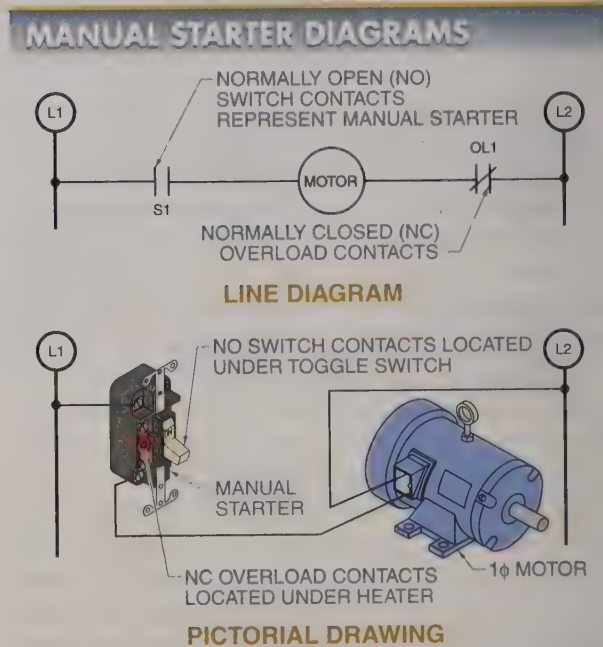

Figure 2-12. A line diagram may be used to illustrate the control and protection of a 1 ϕ motor using a manual starter with overload protection.
A line diagram may be used to illustrate the control and protection of a 1 ϕ motor using a manual starter with overload protection. See Figure 2-12. The manual starter is represented in the line diagram by the set of normally open (NO) contacts S1 and by the overload contacts OL1. The line diagram is drawn for ease of reading and does not indicate where the devices are physically located. For this reason, the overloads are shown between the motor and L2 in the line diagram but are physically located in the manual starter.